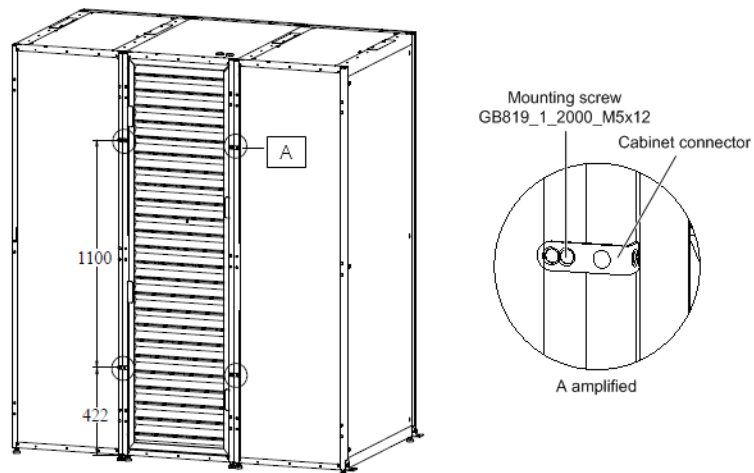

Figure 2-18 For the CR030 and CR060 units
- 3) Use the M5 countersunk head screws to fix the cabinet connector (L-shaped) in the installation holes of the cabinet frame (side of the hinge) and rack frame adjacent to the cabinet as depicted in Figure 2-18.